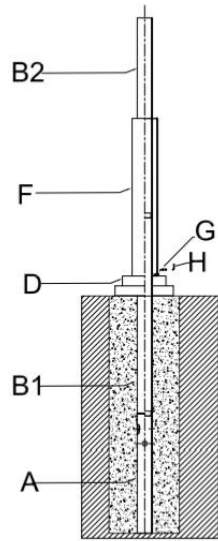

Fig.4
9. Put Base (D) from top of Pole (B2), then secure by mounting screws(E).(Fig 4)